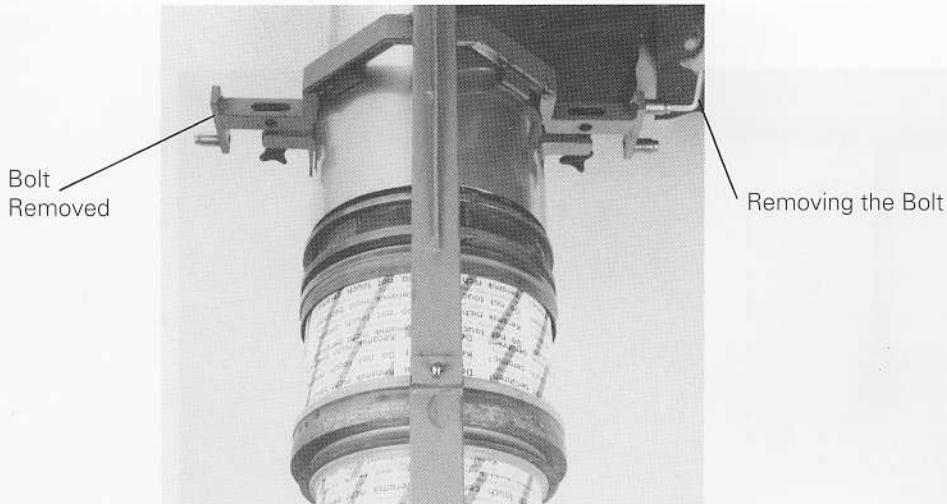

Fig. 12. Removing Two Bolts to Allow Easy Hoisting
- (a) Before raising the klystron, remove the upper bolt of each pair of bolts (Fig. 12) on either side of the body support clamp. This allows free hoisting to the vertical position.